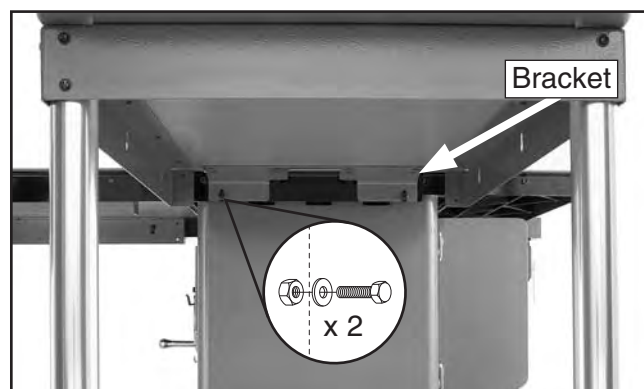

Figure 23. Outfeed table fastened to rear rail.
16. Place the outfeed extension table assembly upright with the feet on the ground, align the slots in the extension table bracket with the rear rail mounting holes, then fasten the table to the rail with two M8-1.25 x 20 hex bolts, 8mm flat washers, and M8-1.25 hex nuts, as shown in **Figure 23**.